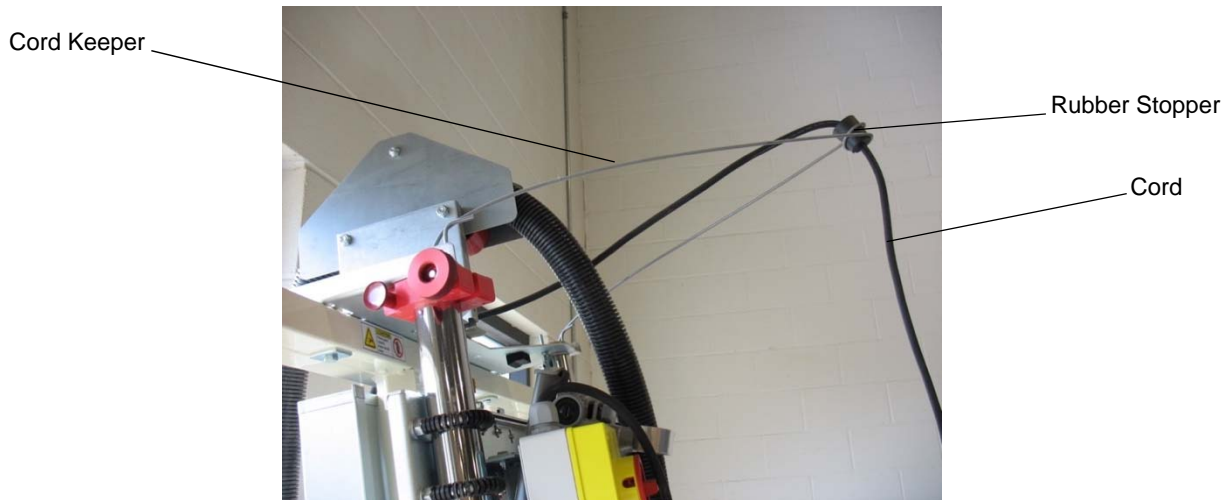
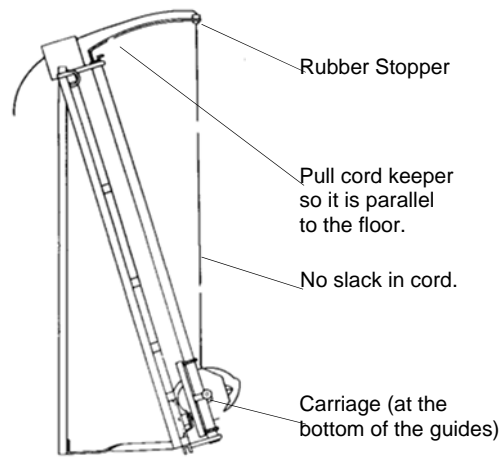

Figure 21: Cord keeper installed with cord
Figure 22: Installing the Cord Keeper
2. Remove the rubber stopper from the ring in the cord keeper. See Fig. 21. Uncoil the cord from the motor, and place the plug end through the ring as shown, Fig. 22.
4. Pull the cord keeper down so it is approximately parallel to the floor as shown. Pull the cord up to remove any slack. Open the rubber stopper and pull it over the cord with the small end of the taper on the bottom. Press the rubber stopper into the ring on the cord holder, Fig.22.